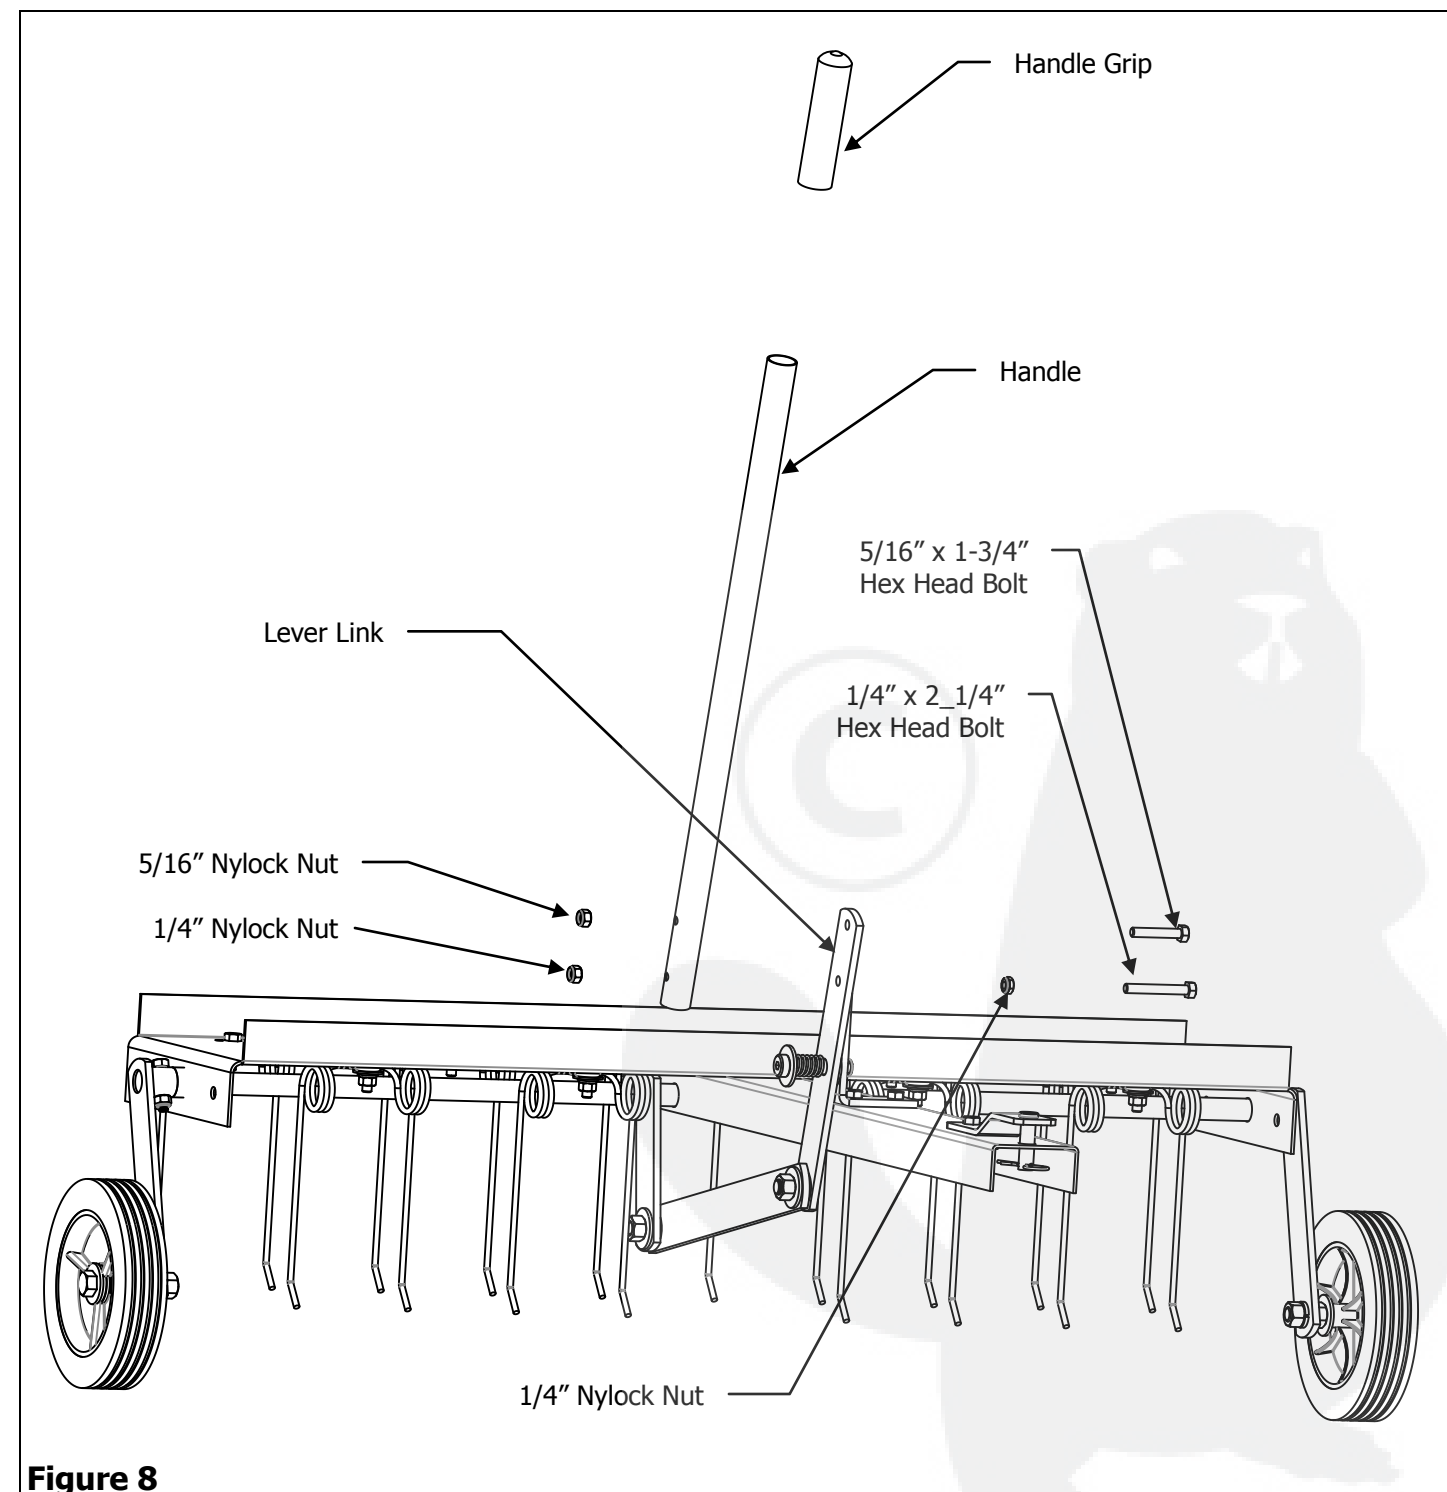

Figure 8
8. Attach the Handle Grip to the Handle. Insert the 5/16" x 1-3/4" Hex Head Bolt in to the top hole in the Handle (from the right side as us are facing the unit), then through the top hole of the Lever Link and secure with a 5/16" Nylock Nut. Attach the 1/4" Nylock Nut to the 1/4" x 2-1/4" Hex Head Bolt (leaving about 1/2" spacing at the top). Insert the bolt into the second hole of the Handle (from the right as you are facing the unit), and the Lever Link, then secure with a 1/4" Nylock Nut. See Figure 8.